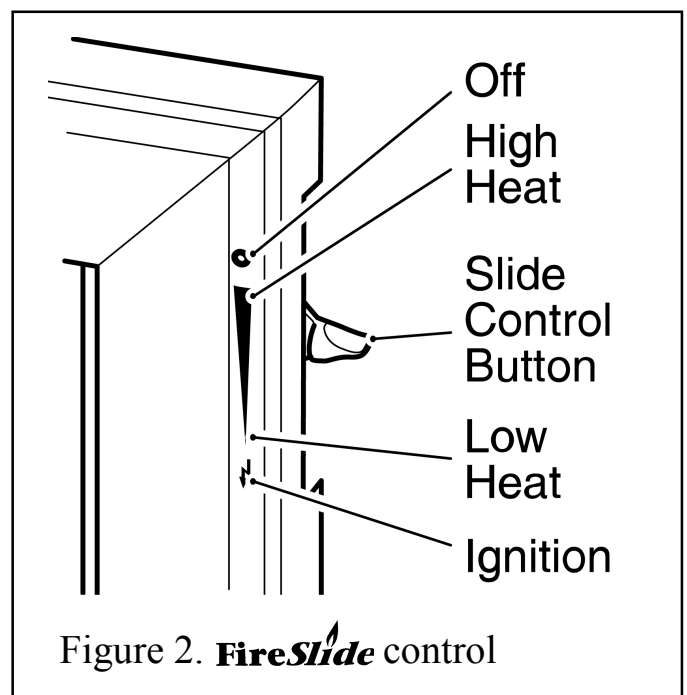

Figure 2. **FireSlide** control
The **FireSlide** control is shown in figure 2.
- ▶ If low heat is required, release the button. The button will automatically spring up to the low heat position shown in figure 2 (See note i).
- ▶ For a higher heat level slide the button upwards. The burner flames and heat output will gradually increase until the button reaches the high heat position shown in figure 2. When the button reaches the high heat position you will feel a check to its movement. **Do not slide the button above the high heat position unless you want to turn the fire off** (See note i).